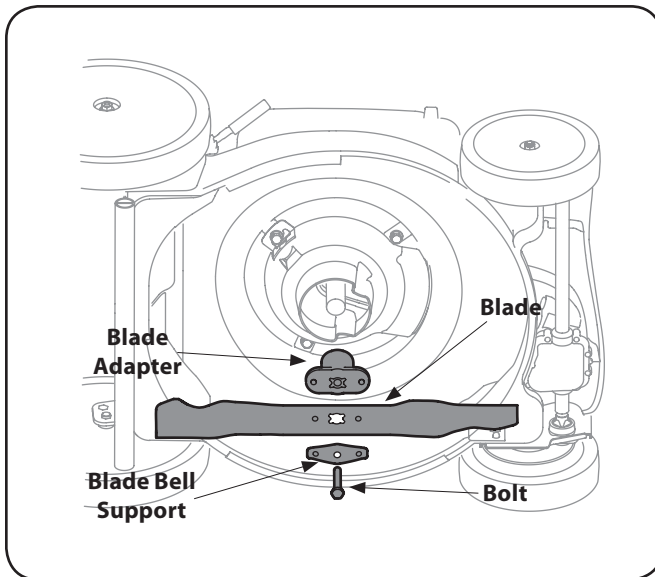

Figure 7-1
2. Remove the bolt and the blade bell support which hold the blade and the blade adapter to the engine crankshaft. See Fig. 7-1.
3. Remove blade and adapter from the crankshaft. See Fig. 7-1.
2. Tip mower on its side with the air filter up to access belt from underside of mower and remove blade as described in the previous section. Refer to Fig. 7-1.